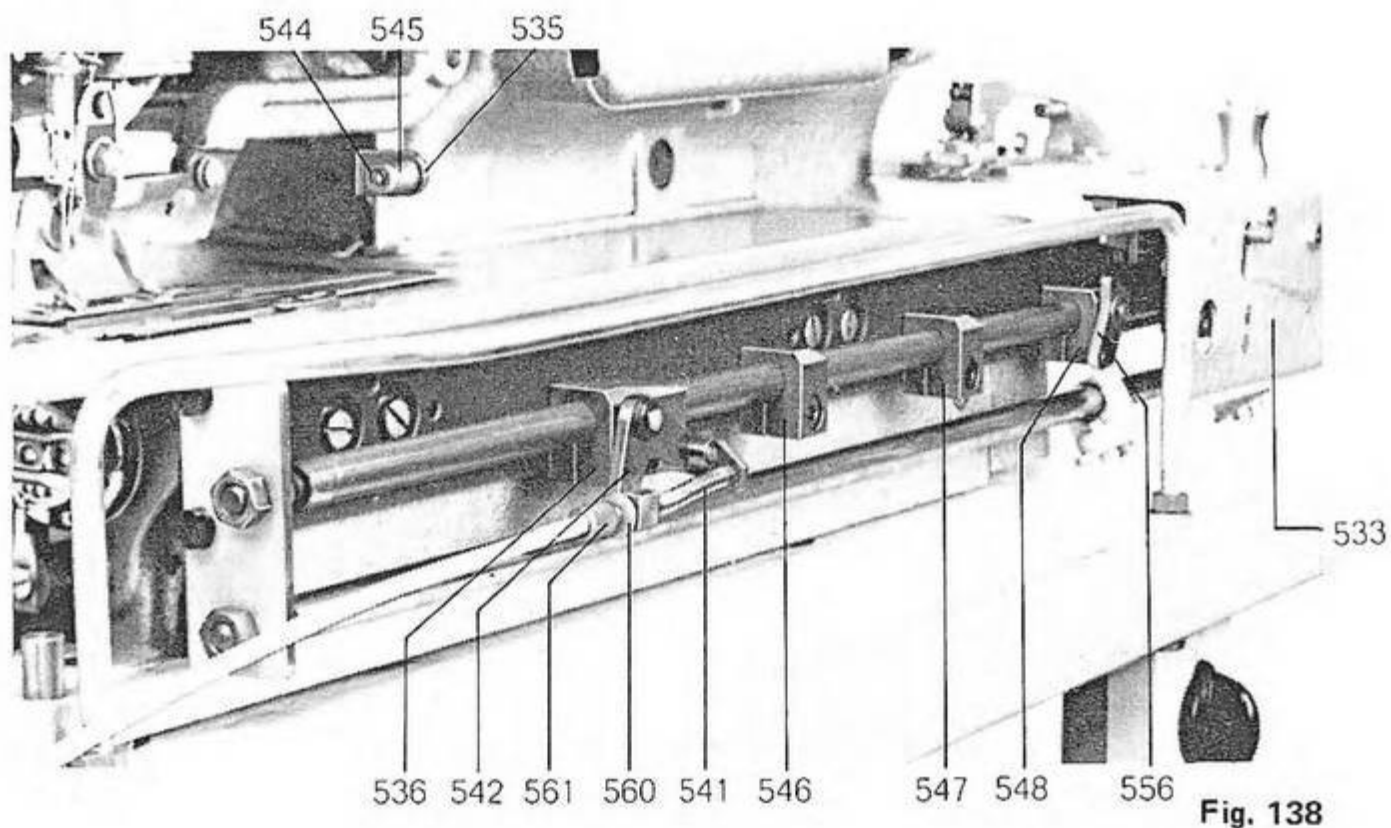
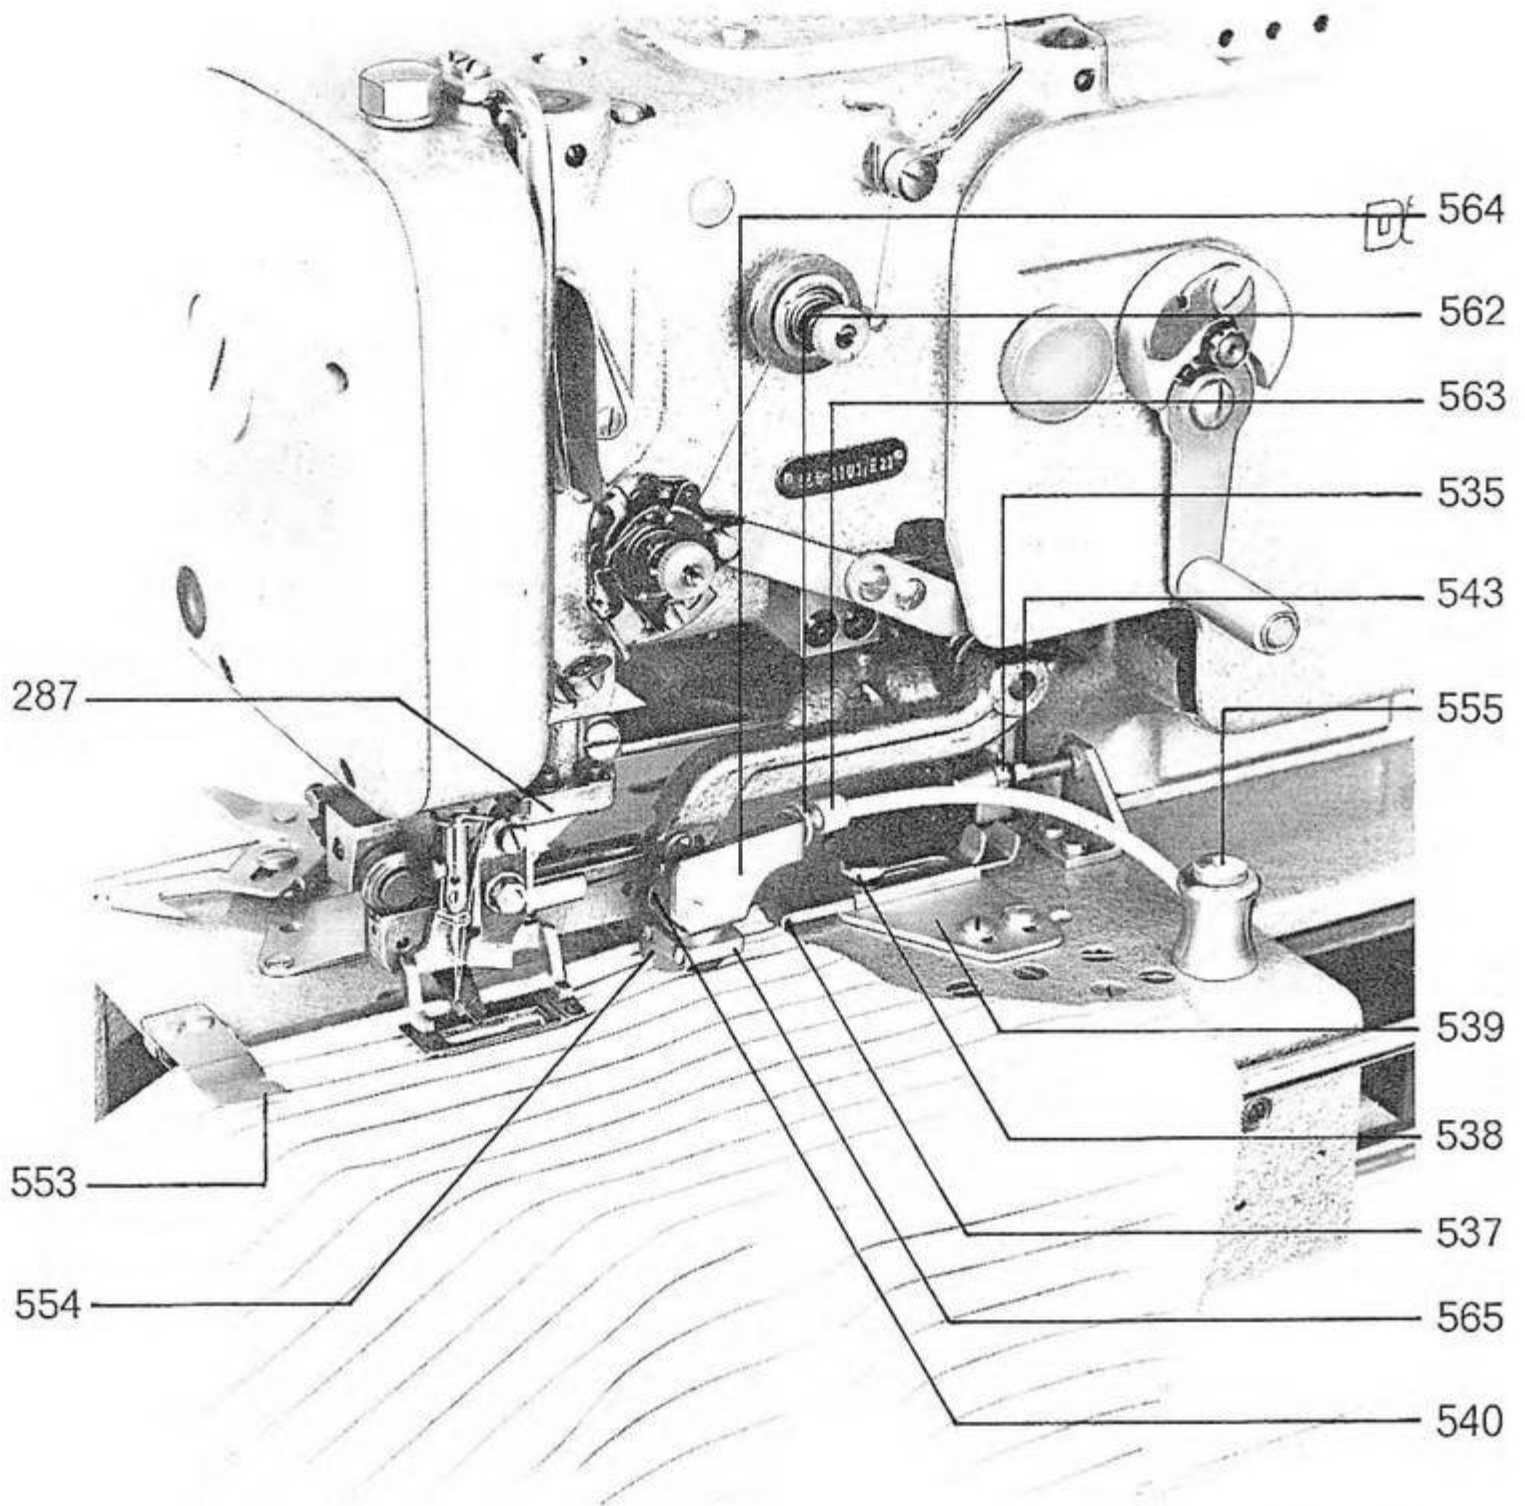
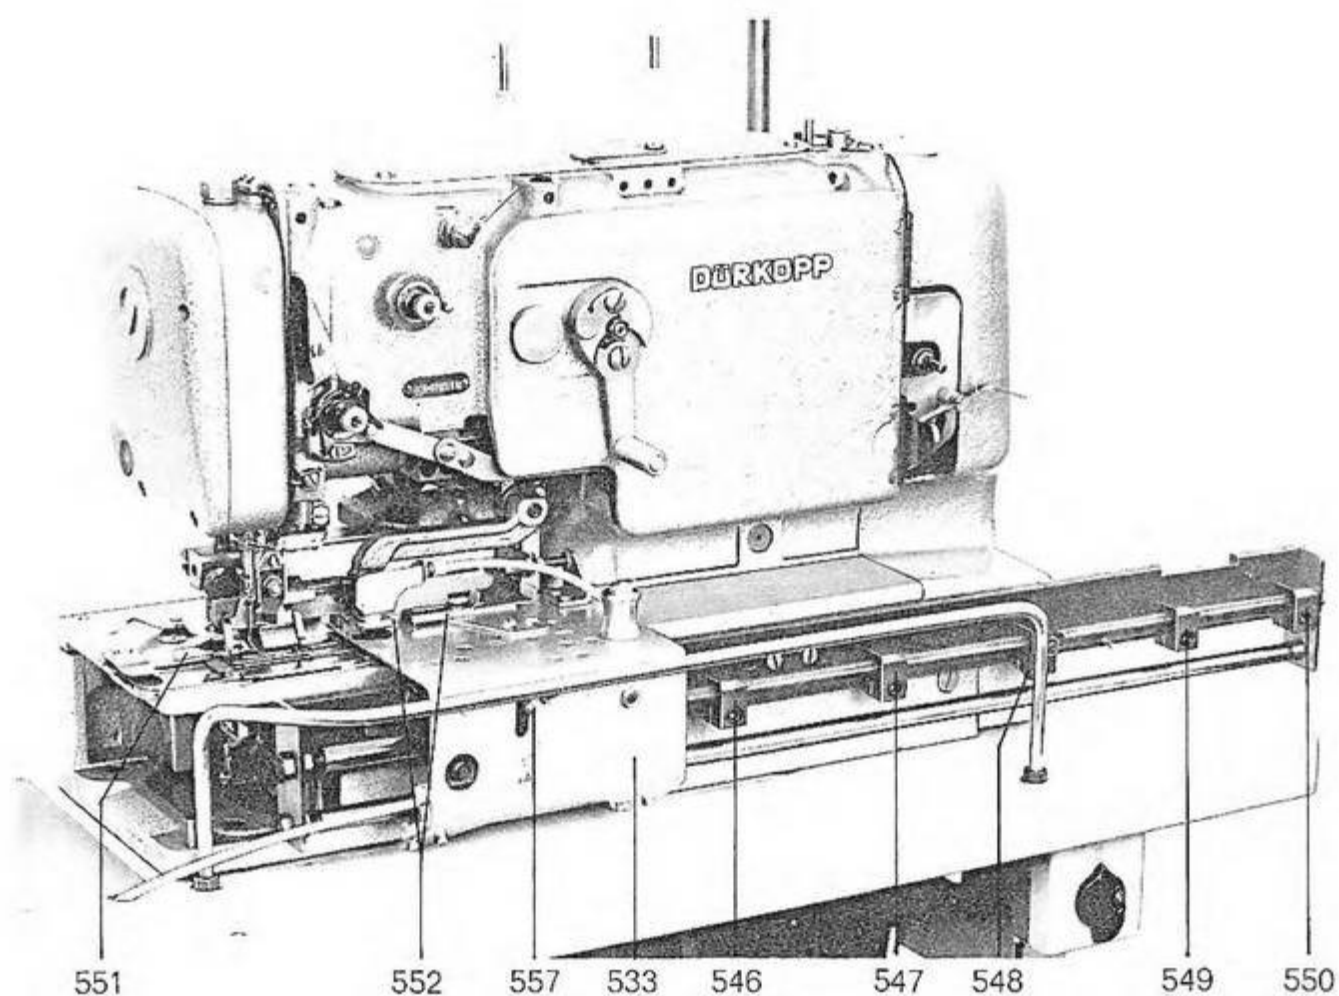

Fig. 138
Fig. 139
Fig. 140
Then the carriage 533 can be pulled to the left against the springy stop 535 (fig. 138). A ratchet will drop behind the first stop block 536 and will arrest the carriage in its initial position.
In first fronts where the collar has not yet been attached, the distance from the upper edge to the first buttonhole is determined by the position of the stop 537 (fig. 139). Adjust the stop 537 accordingly after loosening the screw 538. If the adjustment range of the stop 537 is not sufficient, reset the base plate 539 of the stop by one hole distance on the carriage.
Furthermore, the distance of the first buttonhole can be modified by resetting the stop block 536 (fig. 138). Ensure that the descending knife holder 287 (fig. 139) can freely pass along the clamp 540 when the carriage is in its l/h end position.
If the stop block 536 has been reset, readjust accordingly also the stop screw 543 (fig. 139).
Adjust the stop screw 543 so that with the carriage being in its left end position and touching the block 536 (fig. 138) the distance between the safety disk 544 on the spring bolt and the guide sleeve 545 ranges between 1 and 2 mm.
The distances between the further buttonholes can be determined by the respective adjustment of the stop blocks 546, 547, 548, 549 and 550 (fig. 140). In fig. 140, the stop block 550 for the sixth buttonhole is set fully to the right, i.e. it is not used.
In no striped fabrics this distance can be obtained by adjusting the stops 551 and 552 (fig. 140) against which the shirt front must be placed.
In striped fabrics swing the stop 551 (fig. 140) backwards and pull the stop 552 to the right.
Align the striped fabrics according to the marks 553 and 554 (fig. 139).
After the completion of the buttonhole operate the button 555 (fig. 139) and pull the carriage by the hand to the right up to the next stop. During this motion to the right guide the fabric by the left hand according to the left guide 551 (fig. 140) or according to the mark 553 (fig. 139).
After having sewn the desired number of buttonholes pull the carriage again to the left. The ratchet 556 on the block 547 (fig. 138) will release the clamp and it will be possible to remove the shirt front.
If for some reasons the clamp should be closed or opened by hand, this can be done by lifting or lowering the pin 557 (fig. 140).
This distance can be adjusted by the screw 561 after having loosened the counter nut 560 (fig. 138).
For ensuring a perfect function of the clamp when sewing very thick materials, loosen the counter nut 562 (fig. 139) and turn the screw 563 into the square 564 accordingly.
When handling shirts with already attached collar, remove the stop 539 (fig. 139) for positioning the work. In this case set the stop block 536 (fig. 138) so
1. that the angular knife holder 287 (fig. 139) does not touch the clamp 540,
For this purpose it is necessary to position the shirt front according to a sight mark, e.g. the rear edge 565 (fig. 139) of the clamping device.